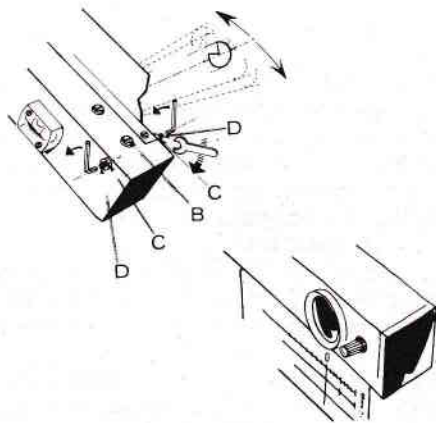

Fig. 36
3. Loosen screw B (Fig. 36).
4. Loosen nuts C and turn both adjusting screws D simultaneously until fault »A« is half of the former value (Fig. 36).